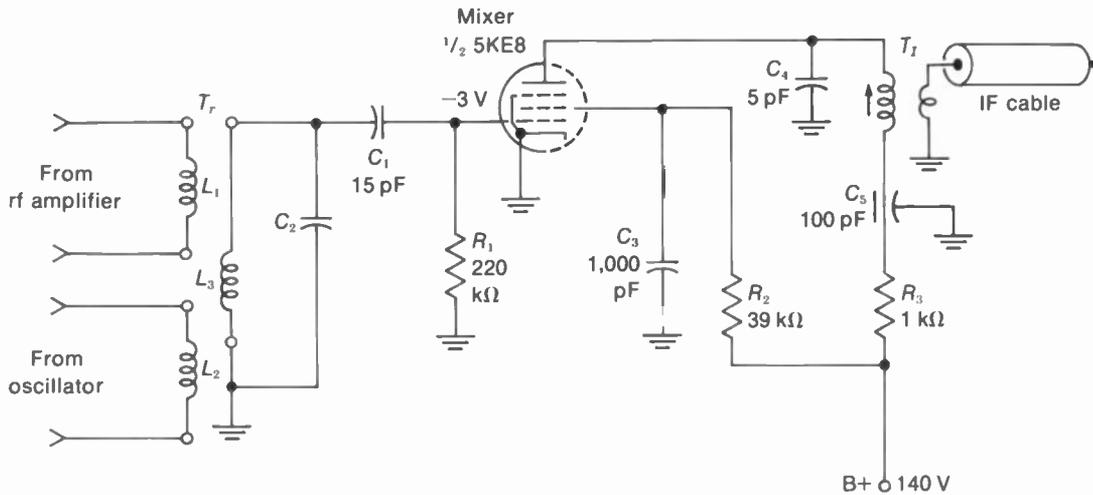
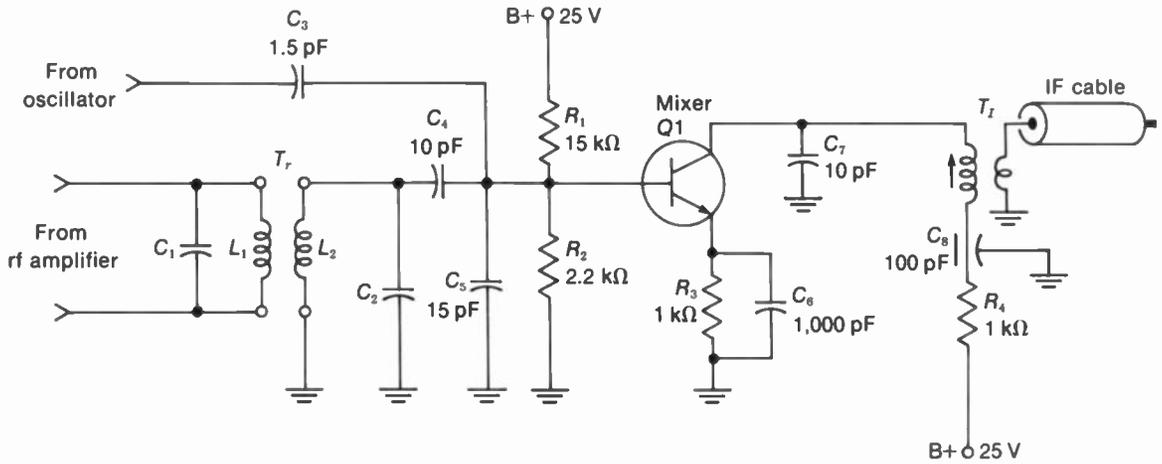

FIGURE 24-15 PENTODE MIXER CIRCUIT.
FIGURE 24-16 TRANSISTOR MIXER CIRCUIT.
The mixer circuit generally uses a pentode tube as in Fig. 24-15 or a transistor as in Fig. 24-16 for the VHF tuner. In the UHF tuner, the mixer is usually a crystal diode, which has less noise and requires less oscillator voltage. There is no AGC bias on the mixer stage.
**Pentode mixer circuit.** The pentode in Fig. 24-15 is combined in a single tube with a triode oscillator, not shown here. The two input sig-
**Transistor mixer circuit.** In Fig. 24-16, rf signal is coupled to Q1 by the rf input transformer  $T_r$ . The primary  $L_1$  and secondary  $L_2$  are tuned by  $C_1$  and  $C_2$  for the selected channel.  $C_4$  is a coupling capacitor and blocks the dc bias at the base. Oscillator voltage is injected into the base circuit by capacitive coupling.  $C_3$  and  $C_5$  form a capacitive voltage